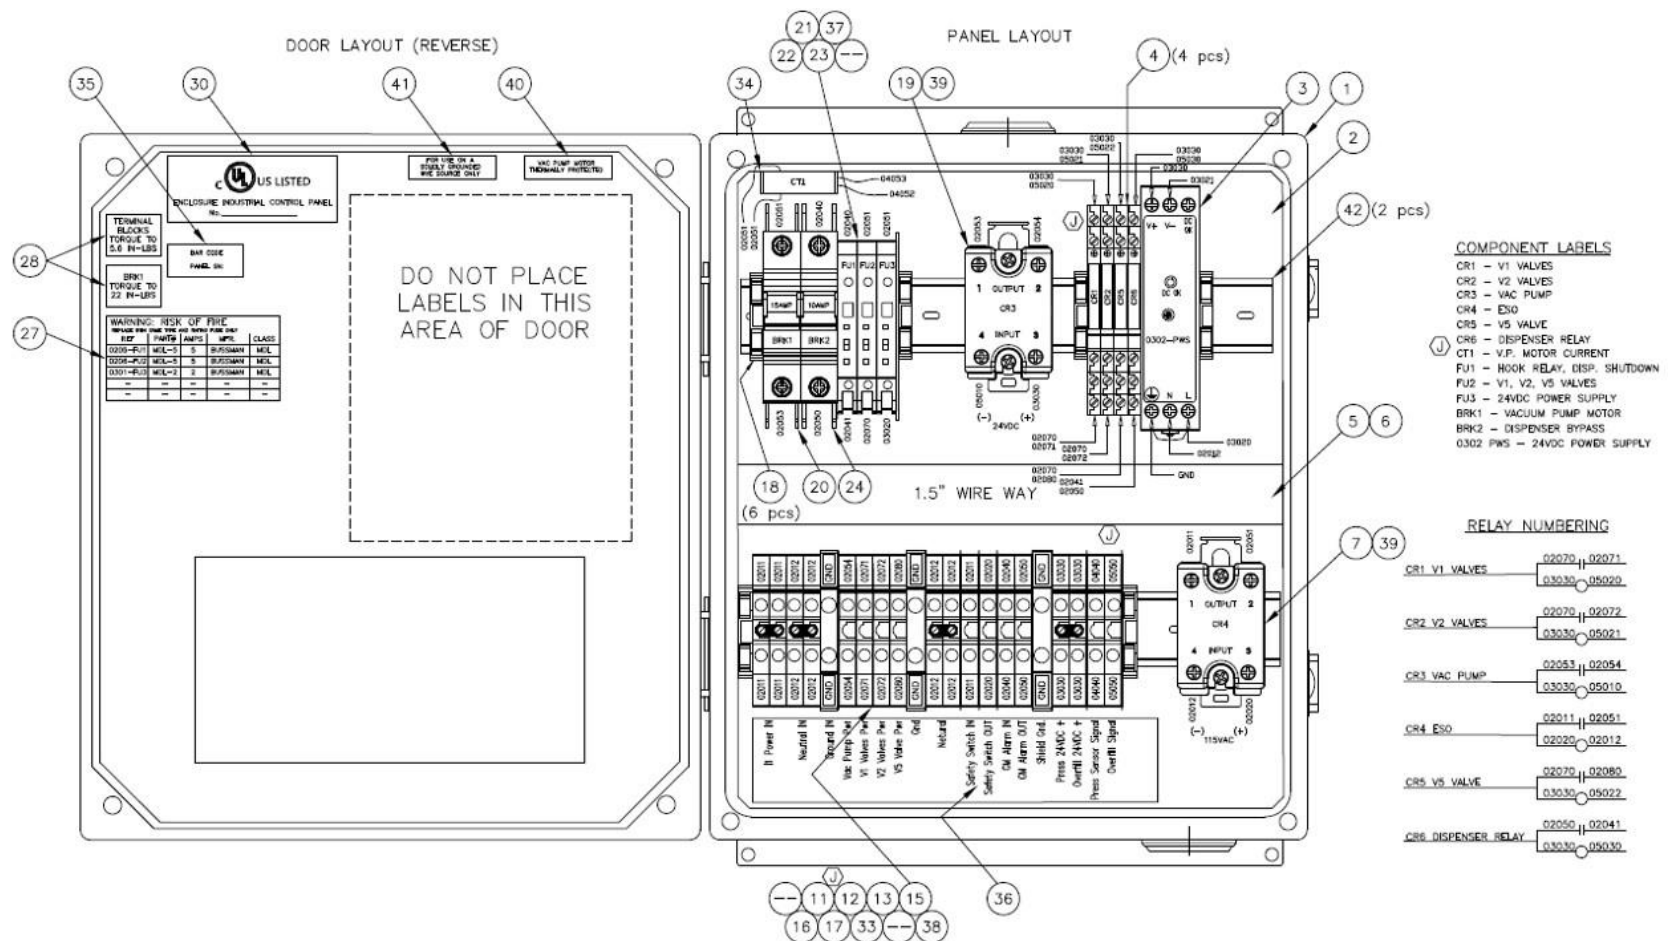

Figure 8-21: VST Control Panel Electrical Components
1.	<p>Check to see if the Vacuum Pump breaker (BRK1) in the Control Panel has tripped. See Figure 8-21.</p> <ol style="list-style-type: none"> Enter the Maintenance screen using the code 878 to disable the GREEN MACHINE. Open the Control Panel front door Check the breaker BRK1 to see if it tripped: <ul style="list-style-type: none"> If the breaker lever is up and the window is RED, the breaker has not tripped. If the breaker lever is down and the window is GREEN, the breaker has tripped. If the breaker has not tripped, go to Step 2. If the Vacuum Pump breaker has tripped, move the lever up to reset the breaker. Push the Clear Motor Alarm button so the alarm resets. See Figure 8-17. Push the Home button to go back to the Main Screen and the alarm will be cleared. The GREEN MACHINE is now in a Normal Operating Mode and will operate if the UST pressure is above 0.2 IWC. NOTE: IF THE VACUUM PUMP BREAKER CONTINUES TO TRIP, GO TO STEP 2.
- b) If a valve is not energized, the screwdriver will not be drawn to the retainer clip. **See Figure 8-21** for fuse location.